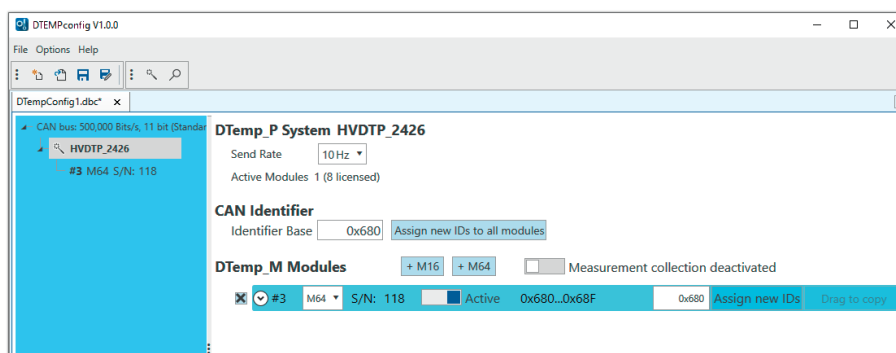

Fig. 5-21: Read-in configuration file
- ⇒ Detected components are listed on the left below the CAN bus level (Fig. 5-21).
- ▶ Controller level – Here the controllers connected to the central unit are displayed. The example in Fig. 5-21 shows an HV DTemp-M64 controller with the ID '3' and the serial number '118'. The setting options for a controller are grouped in a table in the right window pane in the **DTemp_M Modules** section. Each controller is provided with a separate table.